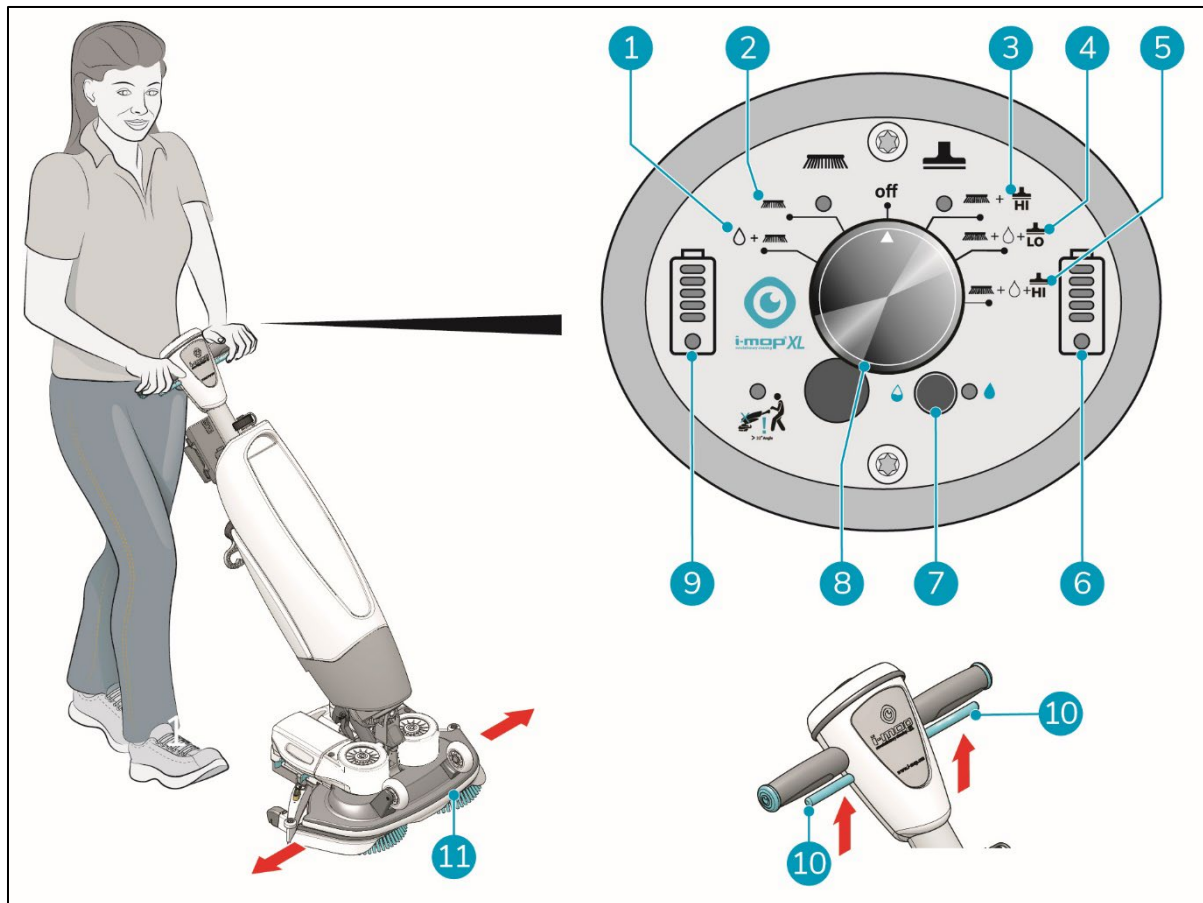

Figure 22
4. Stand behind the i-mop[®] XL Pro. Choose your cleaning mode via the main switch (Figure 22, pos. 7). This will also turn on the i-mop XL Pro. You can select the options independently or combined.
- MODE 1: Brush + water/cleaning solution (Figure 22, pos. 1).
- MODE 2: Brush only (Figure 22, pos. 2).
- MODE 3: Brush + vacuum (Figure 22, pos. 3).
- MODE 4: Brush + water/cleaning solution + Lo vacuum (Figure 22, pos. 4).
- MODE 4: Brush + water/cleaning solution + Hi vacuum (Figure 22, pos. 5).
6. Squeeze the trigger on the handle (Figure 22, pos. 10). This will also start the i-mop[®] XL.
9. Steer by gently turning the handle left or right to move the scrub deck (Figure 22, pos. 11).
10. Releasing the trigger (Figure 22, pos. 10) will immediately stop the i-mop XL Pro. The vacuum motor will stop after 3 seconds.